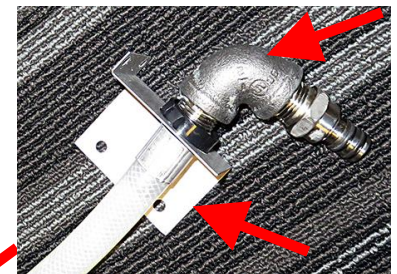

Figure 11
12. Remove the ATO inlet assembly from the ATO pump. Remove the elbow with the quick disconnect fitting and the bracket from the hose. Save the hose with the cap and suction foot for use later (see Figure 11).